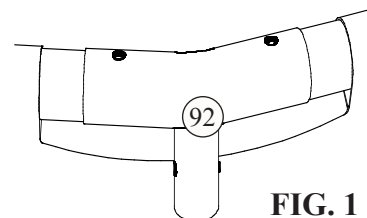

FIG. 1
2. Locate the metal pipe and Tee Fittings for the frame section of the pool. The shorter pipe sections with the larger diameter and the pair of holes at both ends are the Horizontal Beams (91). The longer pipe sections with the smaller diameter and the Spring Pin (96) at one end are the Vertical Legs (94). Take the Horizontal Beams (91) and insert them into the pockets stitched along the top edge of the pool wall. Rotate it in the pocket so that the holes are on the top and bottom of the pipe protruding from each end of the pockets. Take one end of the pipe and insert it into a Tee Fitting aligning the holes with the holes in the Horizontal Beam. Do NOT install any of the Pins (93) at this time. Continue around the pool in either direction installing all of the Tee Fittings onto the Horizontal Beams. See **Fig 1.**